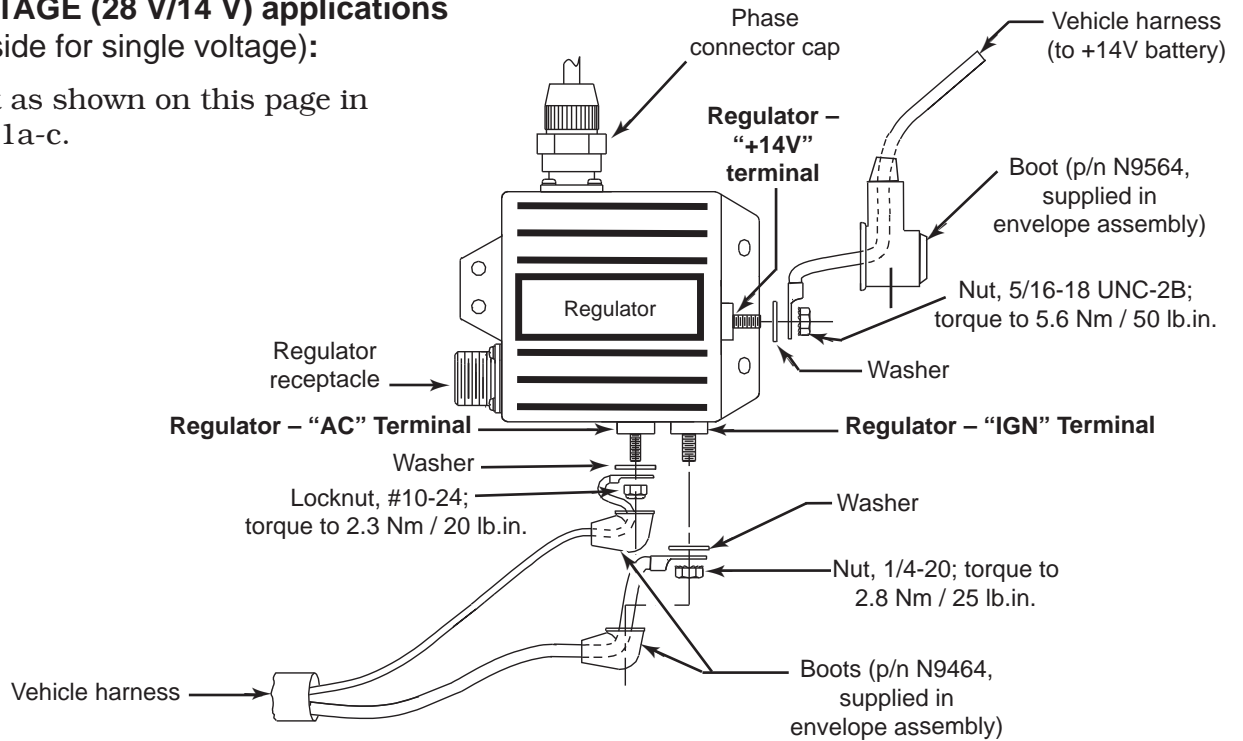

Figure 1a - Regulator Dual Voltage Wiring Connections
1. Connect as shown on this page in Figures 1a-c.